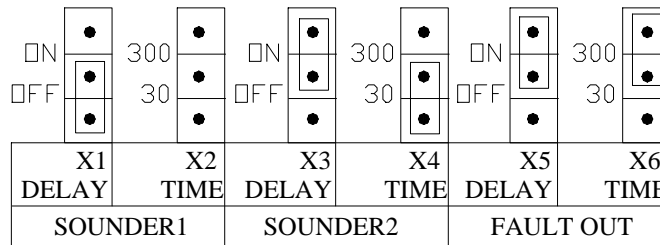

Fig. 5.2
- 3 Setting pins of delay time are shown in Fig. 5.2.
In Fig. 5.2, Sounder 1 is in immediate output state; Sounder 2 is delayed for 30 seconds; Fault output is delayed for 5 minutes.